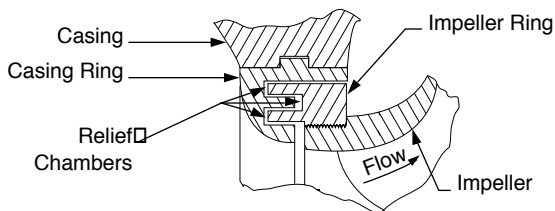

FIGURE 37. Double-Labyrinth-Type Wearing Ring
- Some designers favor labyrinth-type rings, which have two or more annular leakage joints connected by relief chambers (Figure 37).